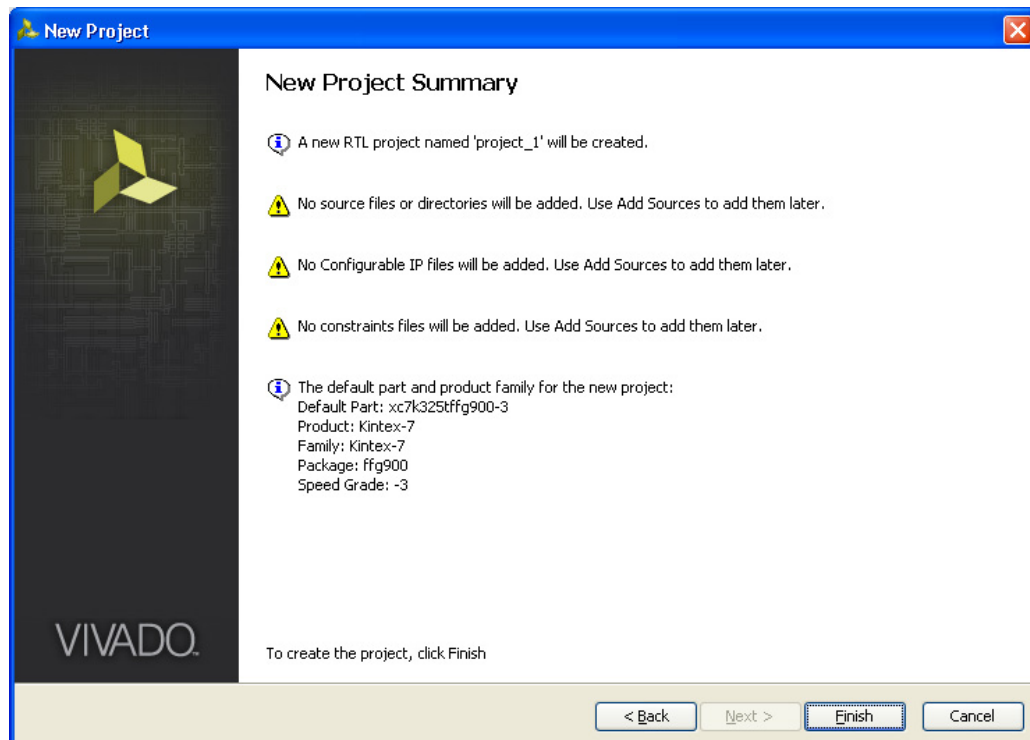

Figure 2-11: New Project Summary
- Click **Next** to open the New Project Summary page (Figure 2-11). This includes the summary of selected project details.